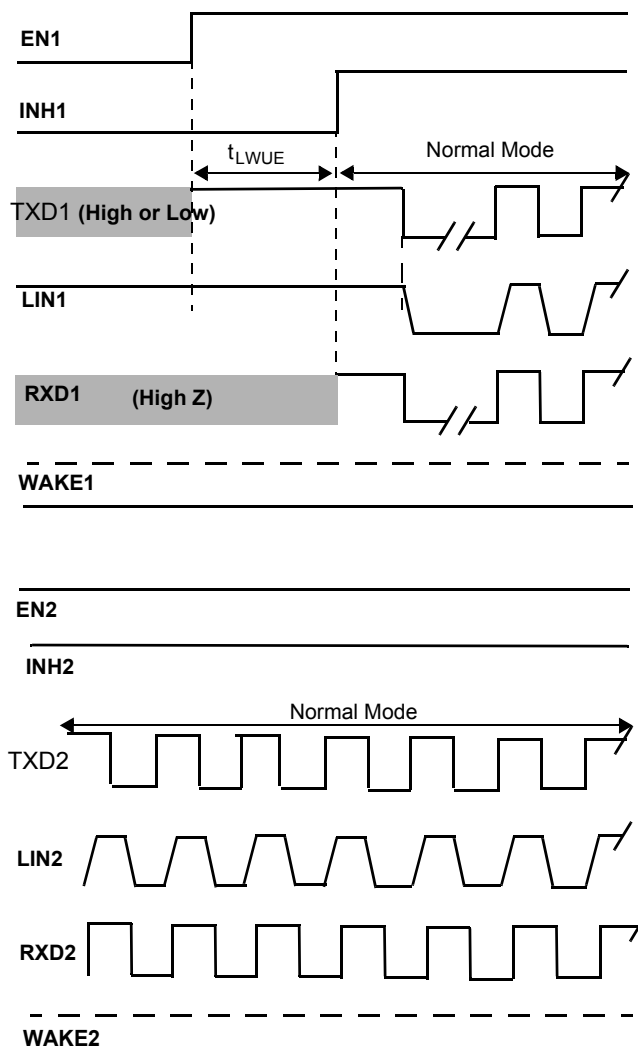

Figure 14. LIN Module 1 EN1 Pin Wake-up with TXD1 High & LIN Module 2 in Normal Mode
- See Figures 14, 18, 22, and 23
- 29. See Figures 14, 15, 16, and 21